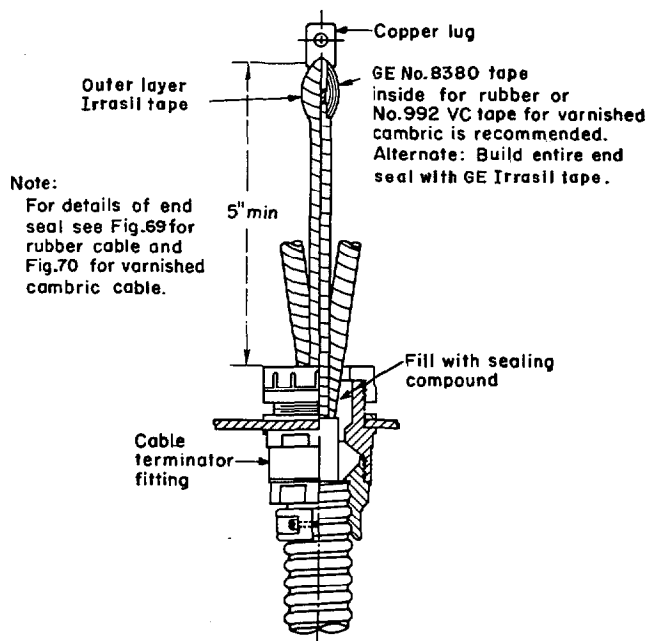

Fig. 71. Termination of interlocked-armor, non-shielded, 5000-volt cable.
**RUBBER-COVERED** – Refer to Fig. 71 for general information concerning termination. For details, refer to Fig. 69. Note that rubber-covered cable requires only taping near the terminal and not back to the terminator fitting. However, if there is a possibility of oil coming in contact with the rubber insulation, it would be well to use a layer of Irrasil® No. 42005 tape all the way back to the terminator fitting.
**VARNISHED-CAMBRIC** – Refer to Fig. 71 for general information concerning termination. Note that varnished-cambric cable requires taping back to the terminator fitting, since the individual conductors or "singles" have no braid.